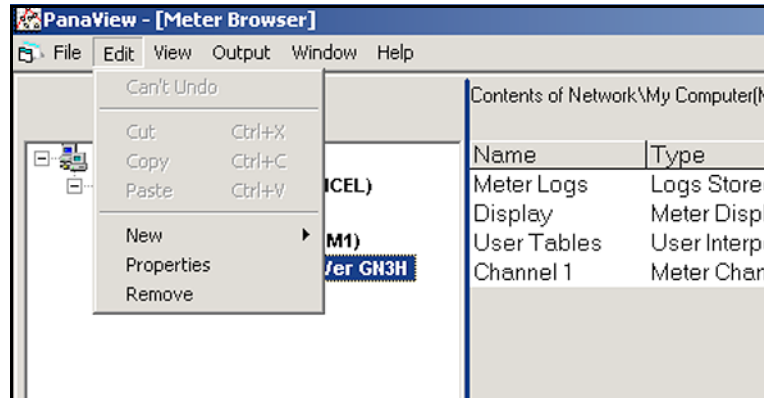
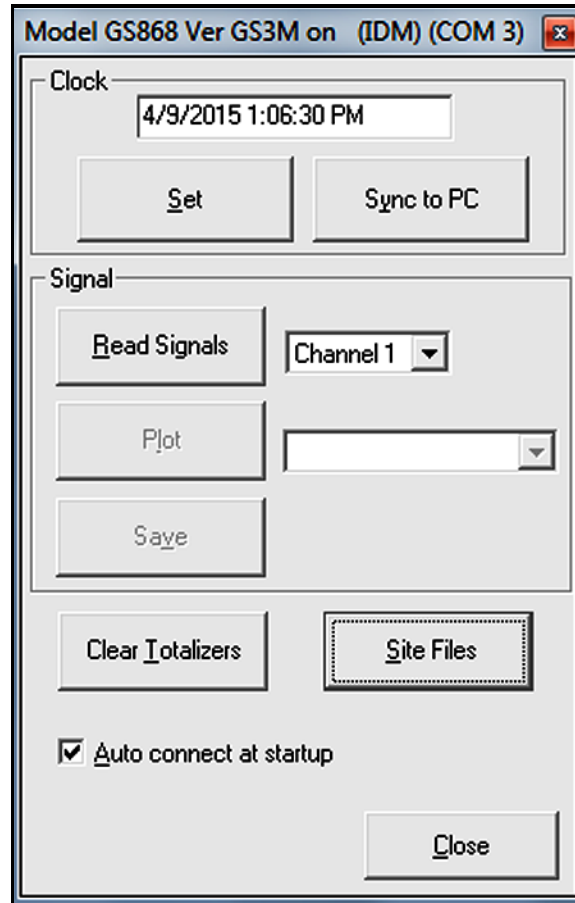

Figure 54: The Edit Menu
Figure 55: Meter Settings
3. With the desired meter highlighted, open the “Edit” menu as shown in Figure 54 below.
1. From the “*Edit*” menu shown in Figure 54 on page 46, click “*Properties*” option to open the dialog box shown in Figure 55 below.
6. Four of the Meter Communication Parameters may be edited by selecting one of the alternate choices in the list boxes shown in Figure 55 on page 47. See "Adding a New Meter" on page 33, for a discussion of these parameters and the available options.
1. From the "Edit" menu shown in Figure 55 on page 47, click "Remove" option to open the dialog box shown in Figure 57 below.